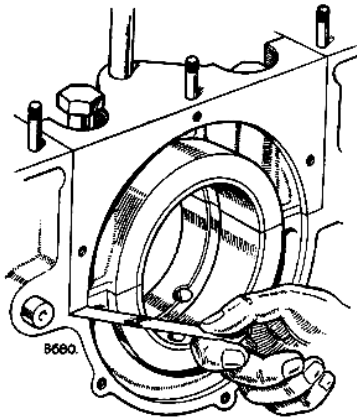

Fig. A-8—Checking main bearing nip
2. Remove the bearing caps and fit the bearing shells, locating by means of the tags. Tighten the caps down and slacken off one bolt of each pair. Check the bearing nip, as illustrated in Fig. A-8, ensuring that the clearance does not exceed .004 to .006 in. (0,10 to 0,15 mm). The nip can be corrected by selective assembly of bearing shells; these are available in slightly varying thicknesses.